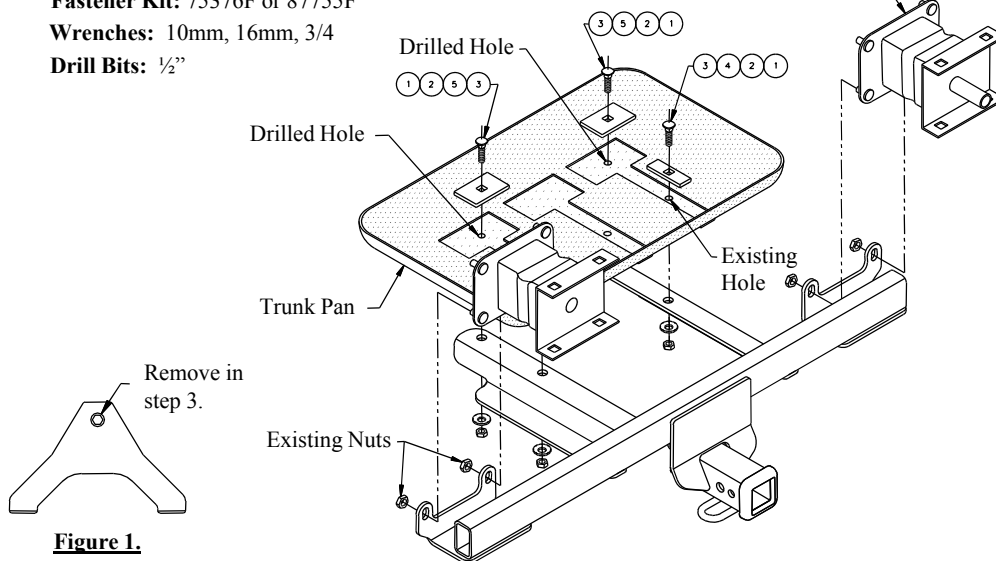
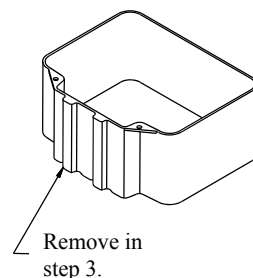

Figure 1.
Figure 2.
①	Qty. (4)	1/2 Hex Nut	④	Qty. (2)	1/4 X 1.00 X 3.00 Block
②	Qty. (4)	Conical Toothed Washer	⑤	Qty. (2)	1/4 X 2.00 X 3.00 Block
③	Qty. (4)	1/2-13 X 1.75 GR5 Carriage Bolt
3. Remove the plastic fascia bracket shown in Figure 1. and the trunk pan cover shown in Figure 2. and return to vehicle owner. Note: Trunk pan cover may be trimmed and reinstalled if required.